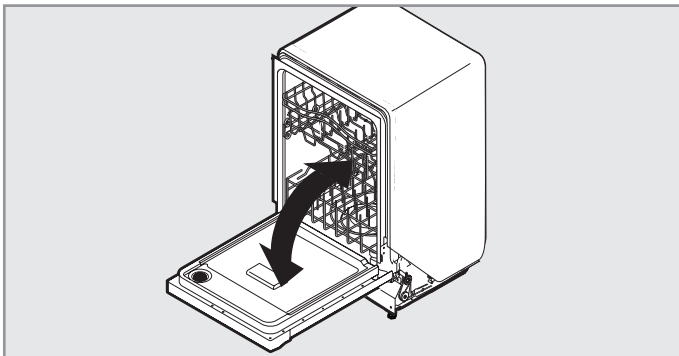

Figure 1
3. With another person holding the dishwasher to keep it from tipping, open and close the door a few times. IF the door closes or falls open under its own weight, the door tension will need to be adjusted. See Figure 1.